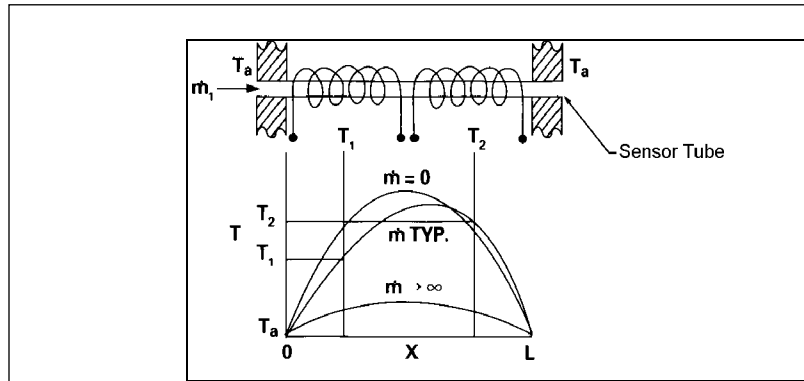
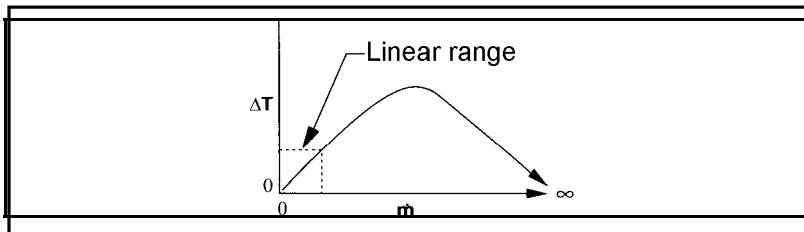

Figure 1-4. Sensor Temperature Distribution
Figure 1-5. Linear Range of the Transducer's Output Signal
The RTD coils are legs of a bridge circuit with an output voltage in direct proportion to the difference in the coils' resistance; the result is the temperature difference (ΔT), Figure 1-4. Two other parameters, heat input (H) and coefficient of specific heat (C_p) are both constant. The resulting output is nearly linear over the transducer's normal operating range (Figure 1-5).